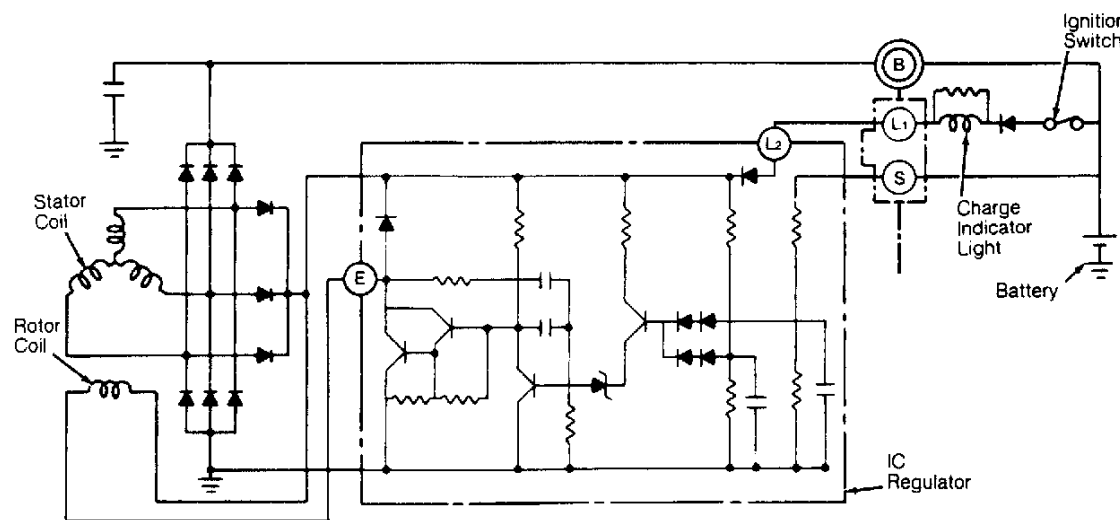

Fig. 1: Charging System Wiring Schematic
Mitsubishi alternator is a 50-amp, conventional 3-phase, self-rectifying type unit, containing 6 diodes (3 main diodes and a smaller diode trio) and a case-mounted Integrated Circuit (IC) regulator. A charge indicator light in the instrument panel indicates charging system malfunctions. See Fig. 1 .